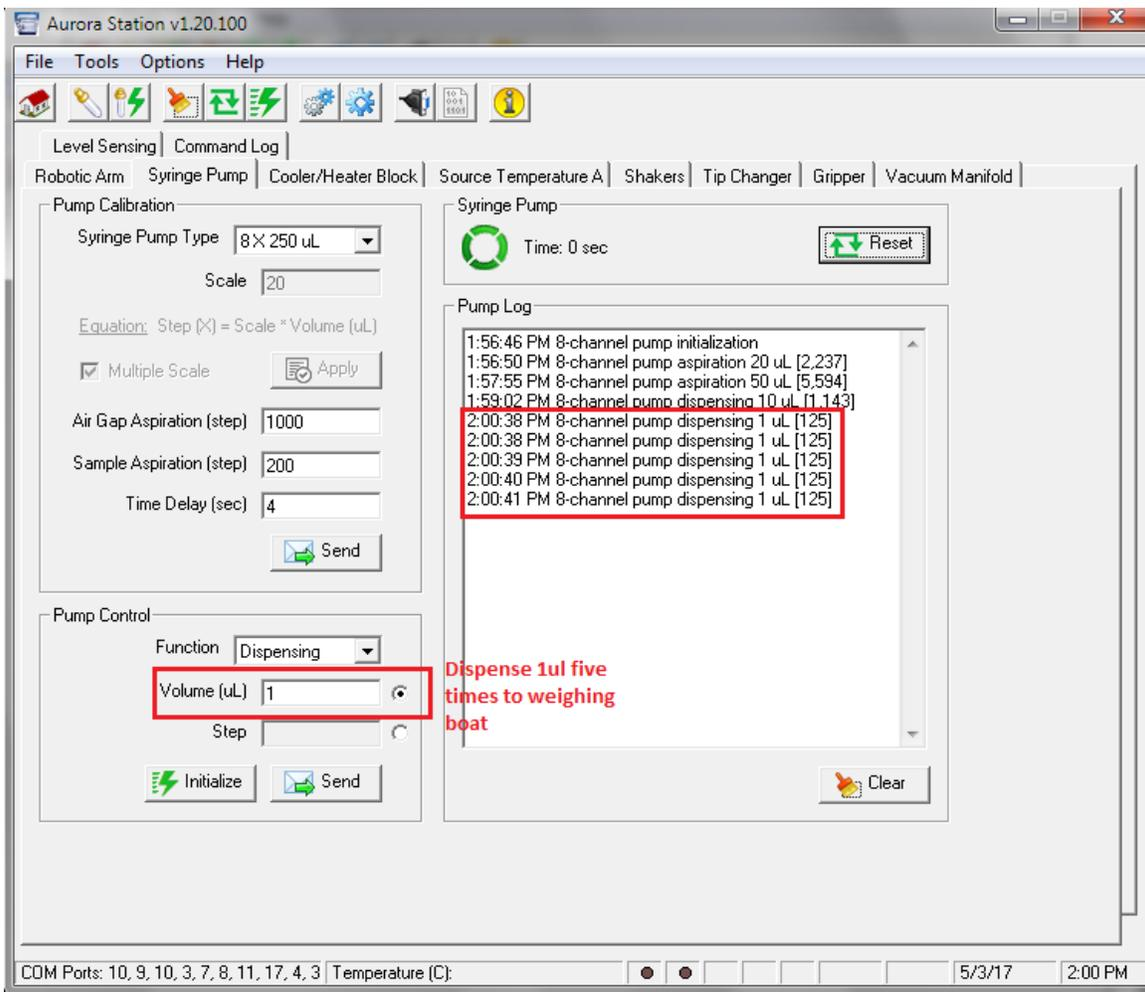

Figure 9-58 Syringe Pump –Dispense 1ul (five times) to weighing boat
10. Enter 1µL volume in the pump control, then aspirate and dispense it into a pre-tared weigh boat (making sure the tip touches the boat while dispensing). Repeat this 1µL aspiration and dispensing cycle in the same boat five times & then weigh the boat—it should be around 5µL. (Figure 9-58 Syringe Pump –Dispense 1ul (five times) to weighing boat) Divide this weight by 5 & get the volume of 1µL. Repeat it 10 times to calculate the CV. Repeat steps 5-9 again to finish 10 replicates. If the accuracy is not good, calibrate the system for 1µL again.